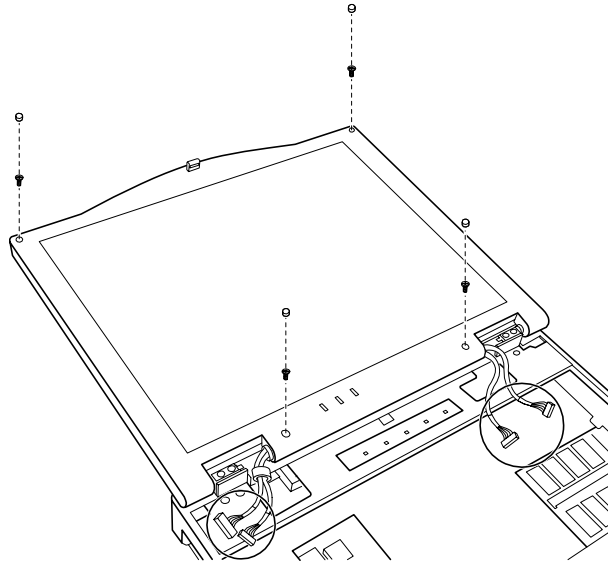

FIGURE 7-24. REMOVING THE LCD FRAME
2. UNPLUG THE LCD CABLE CONNECTORS FROM THE SYSTEM BOARD. (SEE FIGURE 7-24 ON NEXT PAGE).
3. REMOVE THE FOUR RUBBER PADS AND FOUR SCREWS UNDERNEATH. NOW YOU CAN SEPARATE THE LCD FRAME FROM THE HOUSING. (REFER TO FIGURE 7-24 ON NEXT PAGE).
2. FIT THE LCD FRAME BACK TO THE HOUSING AND REPLACE THE FOUR SCREWS AND RUBBER PADS. (REFER TO FIGURE 7-24 EARLIER).
3. RECONNECT THE LCD CABLE CONNECTORS TO THE SYSTEM BOARD. (REFER TO FIGURE 7-24 EARLIER).